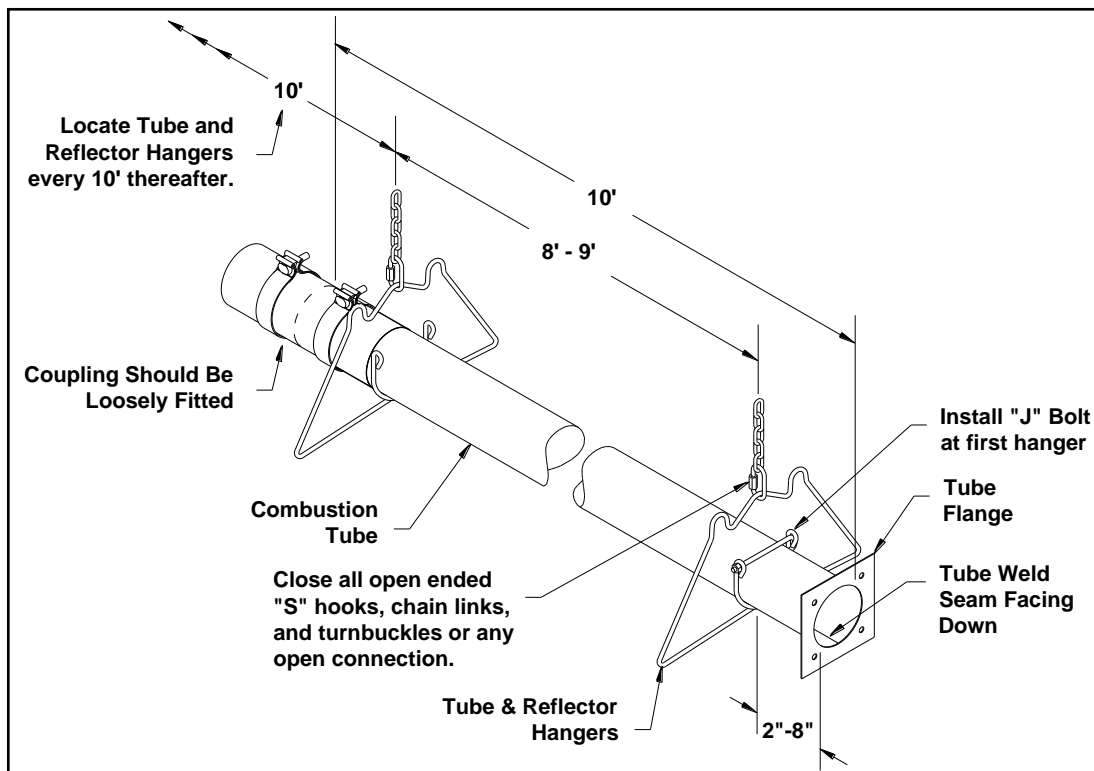

Figure 8: Installation of First section of Flanged Tube
- Place the first (*flanged, aluminized*) tube in the first two hangers (Figure 8). Be sure the flange is toward the intended burner location. The other end of the tube should have the first coupling already loosely fitted.
- Always use all the hangers supplied. As a rule the combustion tube (first tube) utilizes 2 hangers and thereafter 1 hanger per 10' section. **It is required that the first hanging point be 2" to 8" from the burner mounting flange, and tube weld seam must face down**, refer to Figure 8 for more details.